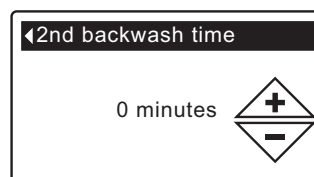

FIG. 55
- 8e. **Second backwash time:** Press the UP (▲) or DOWN (▼) buttons to change the second backwash time. Hold the button down to rapidly advance. The time can be set from 0 to 15 minutes (See Figure 55).